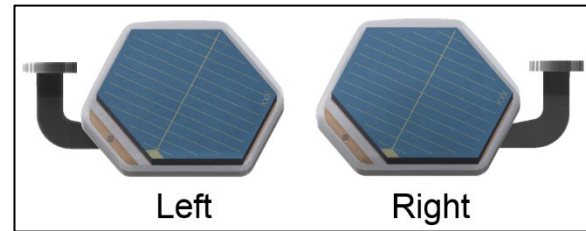

Figure 9: Grasping Tab Left/Right of Photodetector
- o **Grasping Tab left/right of Photodetector (Figure 9):** When facing the Photodetector, the Grasping Tab for a right Lens is located on the right side and the Grasping Tab for the left Lens is located on the left side.